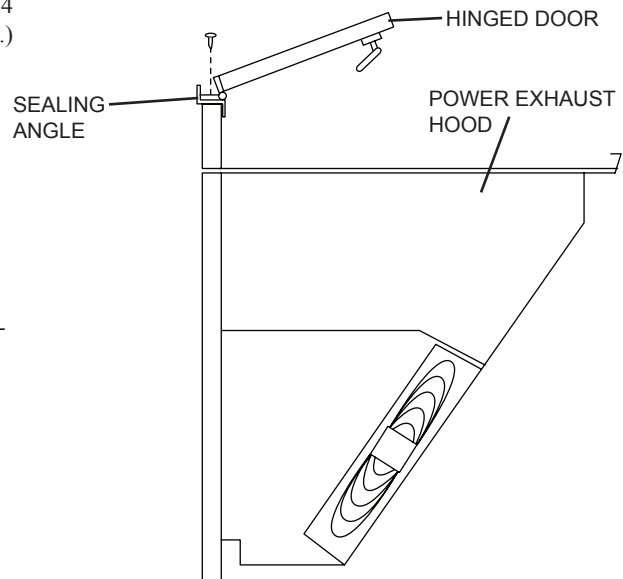

Figure 16 - Install the Hinged Door
7. Place the door and hinges back on the unit. Screw through the door hinges and sealing angle into the flanged top of the hood using the 4 screws set aside when the hinged door was removed. (See Fig. 16.)